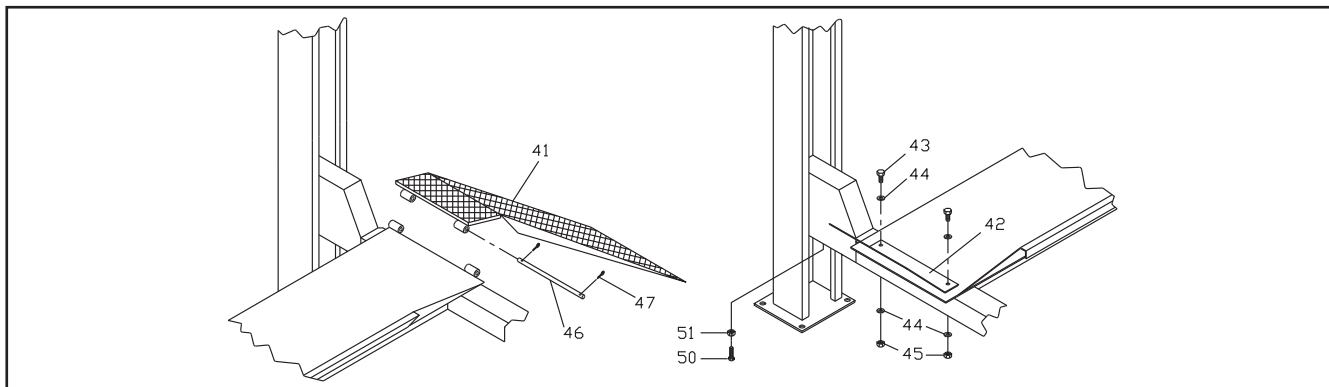

Fig.56 Securing the vehicle ramps and wheel stops
The vehicle ramps (pos.41, fig.56) and the wheel stops (42) can be fitted on either end of platforms (7 - 8) according to the user's requirements. Fit the ramps (41) by slotting them into the platforms on the required end and then fix the wheel stops (42) on the opposite end using M10 x 25 H.H. screws (43), 11 x 30 washers (44) and M10 nuts (45).